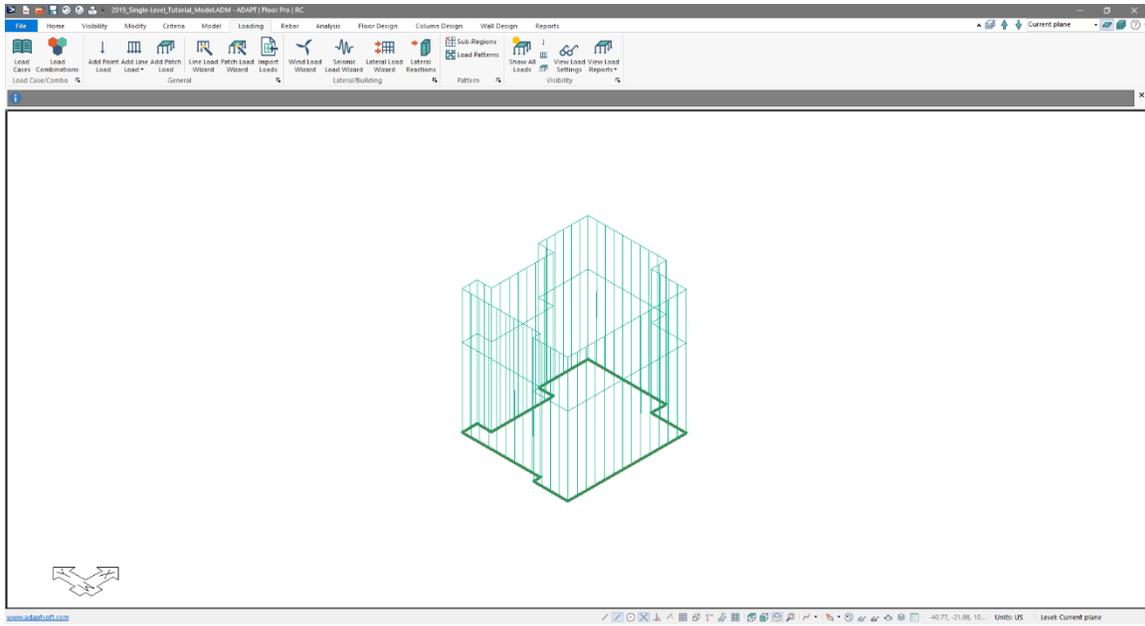

Figure 4-13
- Click on the *Top-Front-Right View*  icon in the **Bottom Quick Access Toolbar**. This will bring you to the view of the model shown in **FIGURE 4-13**. Note, if we check the dimension column for the loads in the *Select/Set View Items* window the program will display the load value on plan as well.